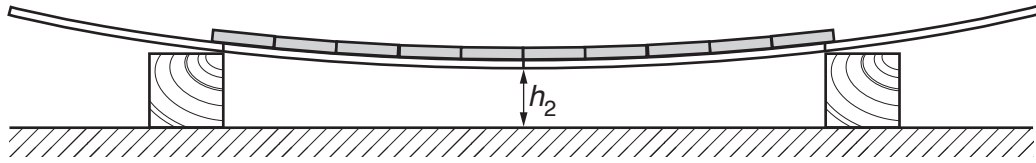

Fig. 2.4
- (d) (i) Replace the masses on the strip and ensure the blocks are still positioned at the marks. Measure and record the height h_2 of the bottom of the strip at the centre line, as shown in Fig. 2.4.